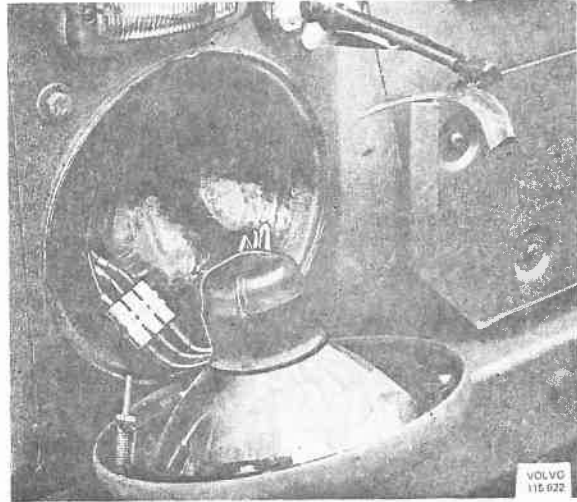

Fig. 35-3. Rim with insert
2. Lift forward the rim together with insert, Fig. 35-3.